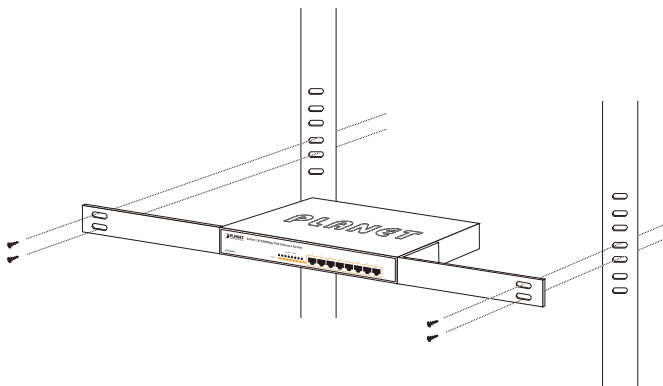

Figure 3-3: Mounting the Switch in a Rack
Step 5: After the brackets are attached to the Switch, use suitable screws to securely attach the brackets to the rack, as shown in Figure 3-3.